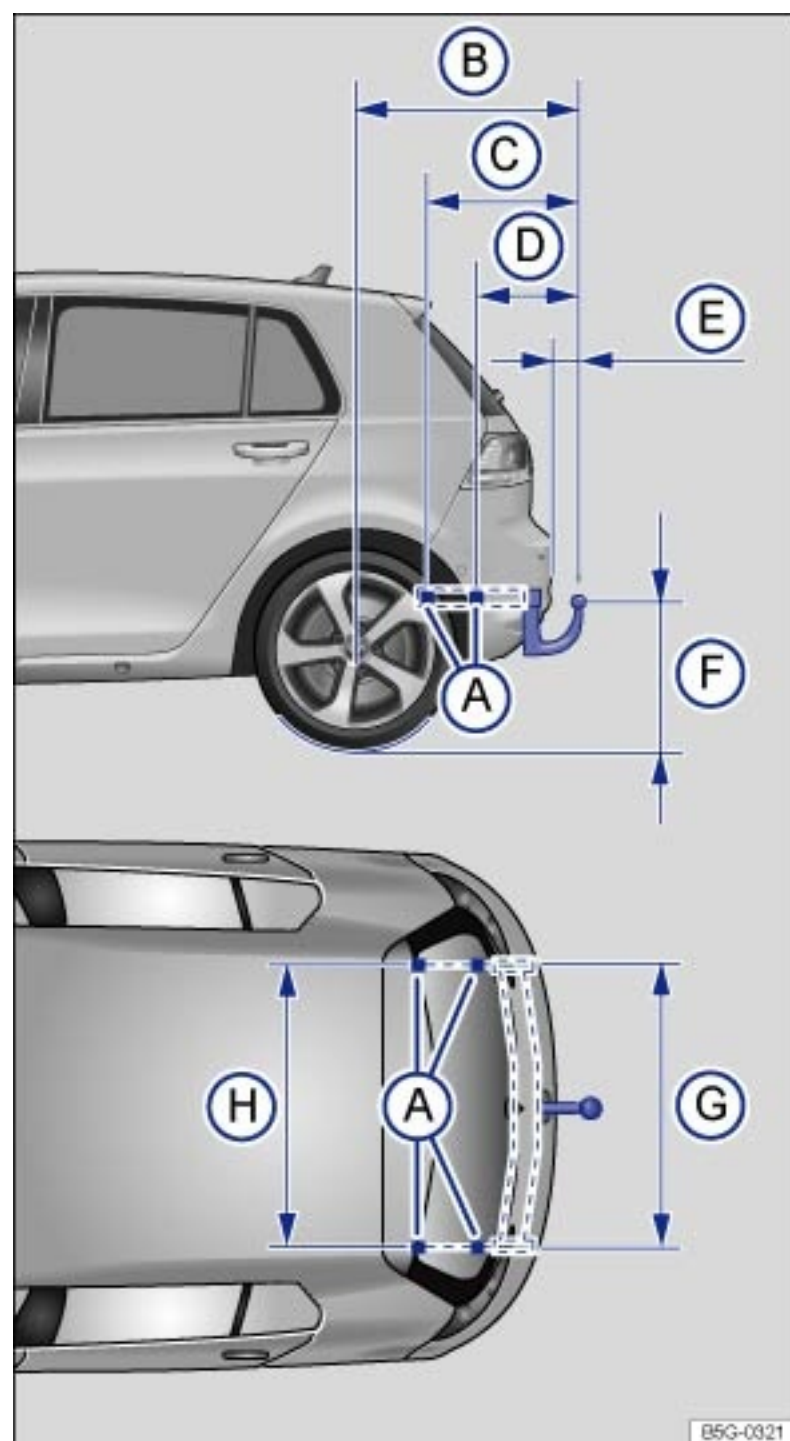

Fig. 108 Dimensions and attachment points for retrofitting a trailer hitch.
When retrofitting a trailer hitch, the specified distance dimensions must be strictly adhered to. Under no circumstances may the distance from the center of the hitch ball to the surface of the road → Fig. 108 ⑥ be less than the specified minimum. This minimum height must be present even when the vehicle is fully loaded and subject to the maximum tongue weight.
Distance dimensions → Fig. 108: